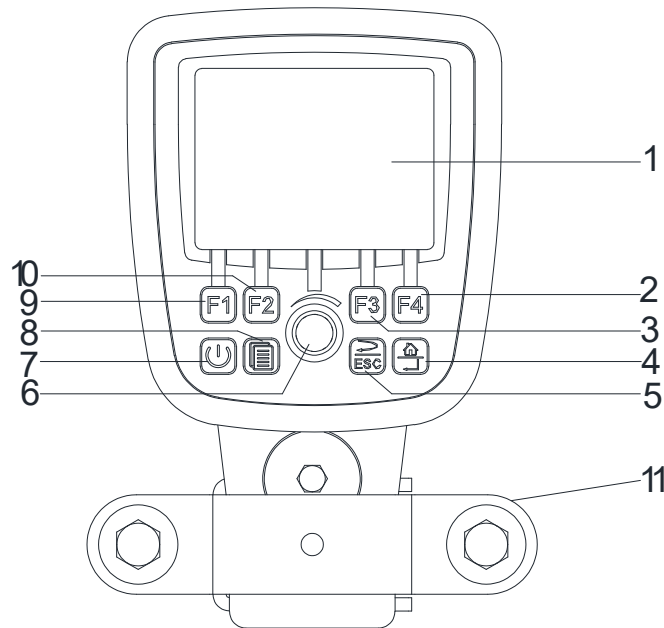

Fig. 28 VisionX Display operating device (hybrid)
- VisionX Display operating device (hybrid) (Fig. 28)
When the disc spreader is not hitched to a towing vehicle, the operating device is attached to a holder at the front of the hopper. A holder (Fig. 28/11) for the towing vehicle included in the scope of delivery enables the operating device to be attached to the towing vehicle. The disc spreader can then be operated from the towing vehicle.